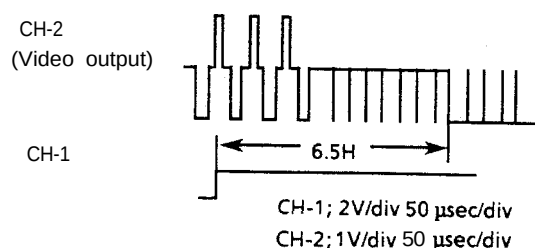

Figure 2-3.
3. Adjust R753 (60Hz SW. P. ADJ.) so that the waveform on the oscilloscope screen be as shown in Figure 2-3.